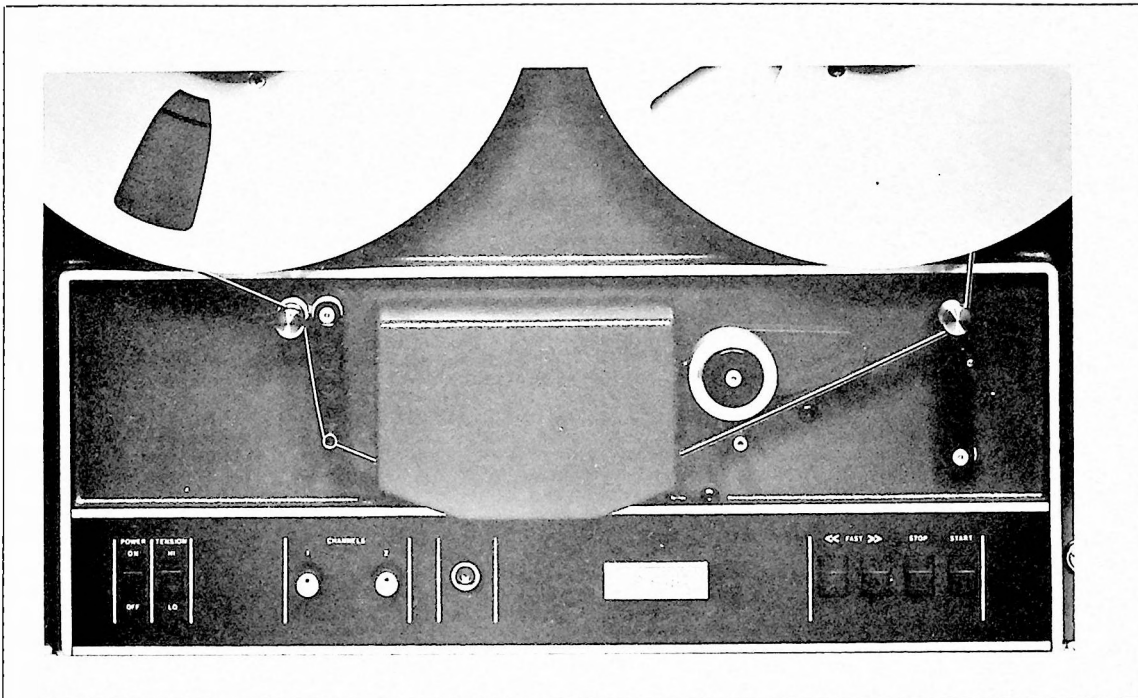

Figure 3-4. Tape Threading Path
3.3 Before installing and threading the tape, perform routine tape path maintenance in accordance with paragraph 4.2 in Section 4. See Figure 3-4 for the tape threading path. Set the TENSION control to HI position when using large reels (10-1/2 inches) and LO position when using small reels (7-1/2 inches).